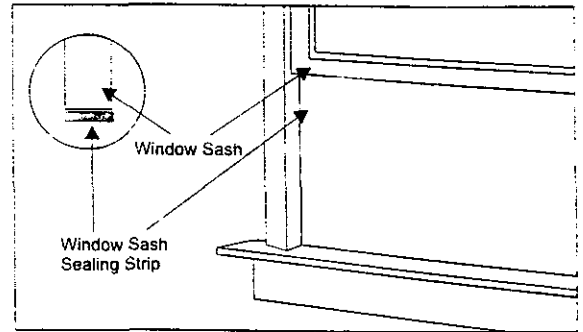

Fig 12
D. Cut the 1st foam sealing strip to fit the underside of the bottom **window sash**. Remove the peel-off backing on the foam and attach it to the sash. See (Fig 12)
D. Cut the **first foam sealing** strip to fit the underside of the bottom **window sash**. Remove the peel-off backing on the foam and attach it to this sash. See (Fig 12)